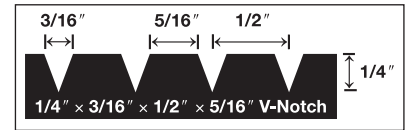

Figure 1
- 1/4" x 1/2" x 3/16" (6 mm x 13 mm x 8 mm) V-Notch trowel (Figure 1)